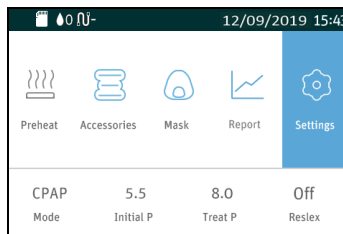

Fig. 13-1
(1) Insert the Cellular Module into the device, and turn on the device. The device screen displays the Main Interface shown in Fig. 13-1.